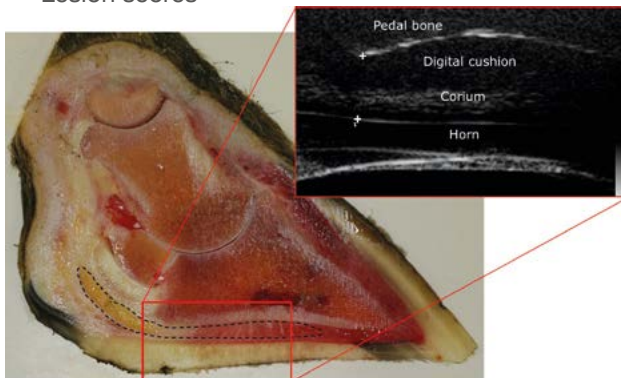

Figure 5. Ultrasound image of the hoof horn, soft tissue, digital cushion and pedal bone
- Digital cushion and soft tissue thickness, using ultrasonography at three sites beneath the pedal bone (Figure 5)